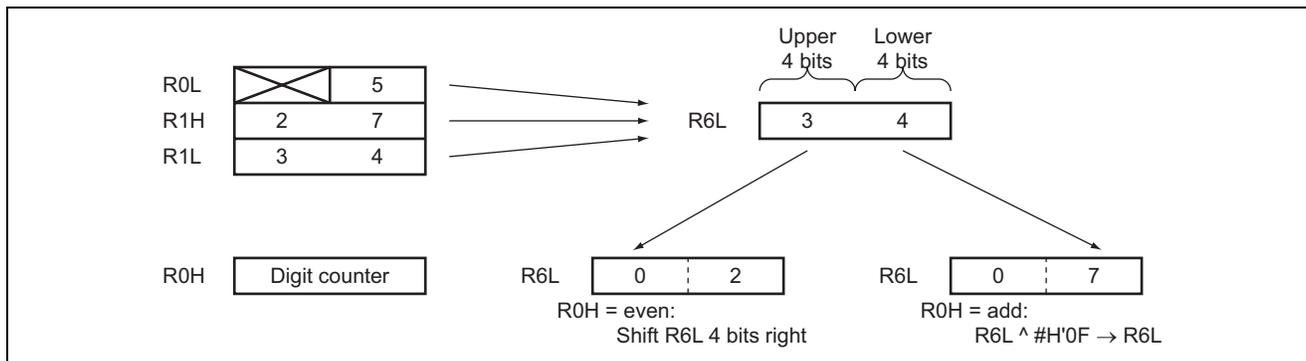

Figure 3 Dividing One Byte of Data in a General-Purpose Register into Two
2. The processing of one digit (four bits) of input data is described below with reference to figure 3.